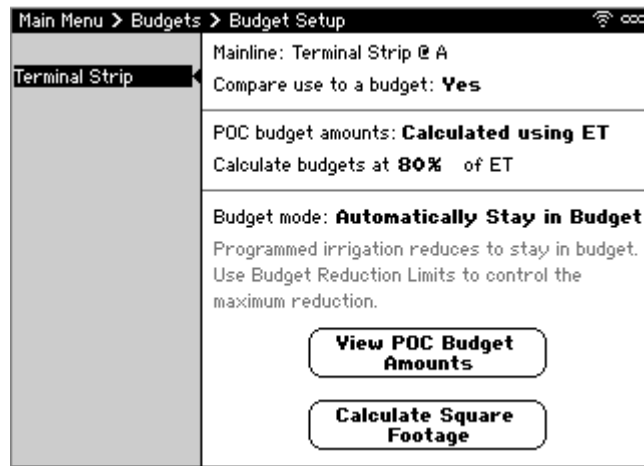

Figure 58: Calculated using ET Budget Setup Screen
- If selecting **Calculated using ET** (Figure 58):